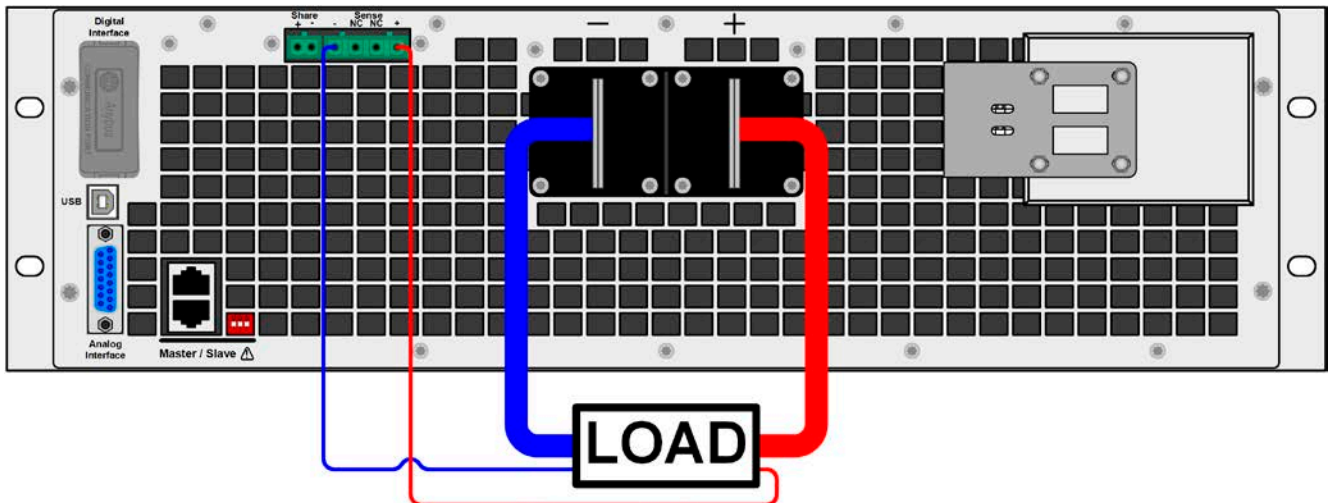

Figure 8 - Principle of remote sensing wiring on the master unit
- *Remote sensing is only effective during constant voltage operation (CV) and for other regulation modes the sense input should be disconnected, if possible, because connecting it generally increases the oscillation tendency.*
- *The + sense cables must be connected to + on the load and - sense to - at the load, otherwise the sense input of the power supply can be damaged. For an example see Figure 8 below.*